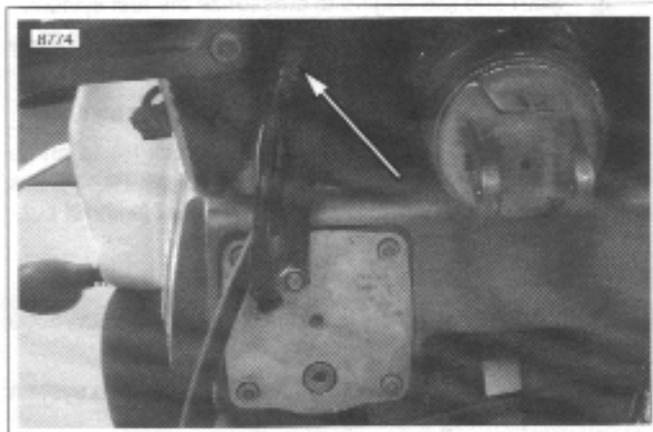

Figure 4-26. Fuel Pump connector [86] (swingarm removed for illustration)
- a. See Figure 4-26. Disconnect the 4-place fuel pump connector [86]. The connector is located inside the left rear portion of the fuel tank/frame.
7. See Figure 4-26. Attach fuel pump connector [86] to main wiring harness.